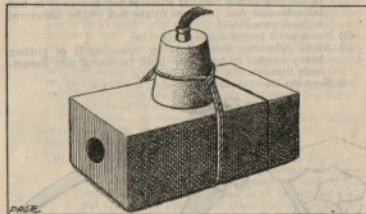

Fig 4. CE/TNT slab with primer, detonator and safety fuzer
- (b) *Initiation*.—The slab is satisfactorily initiated with a 1 oz. primer lashed on as shown in Fig 4.